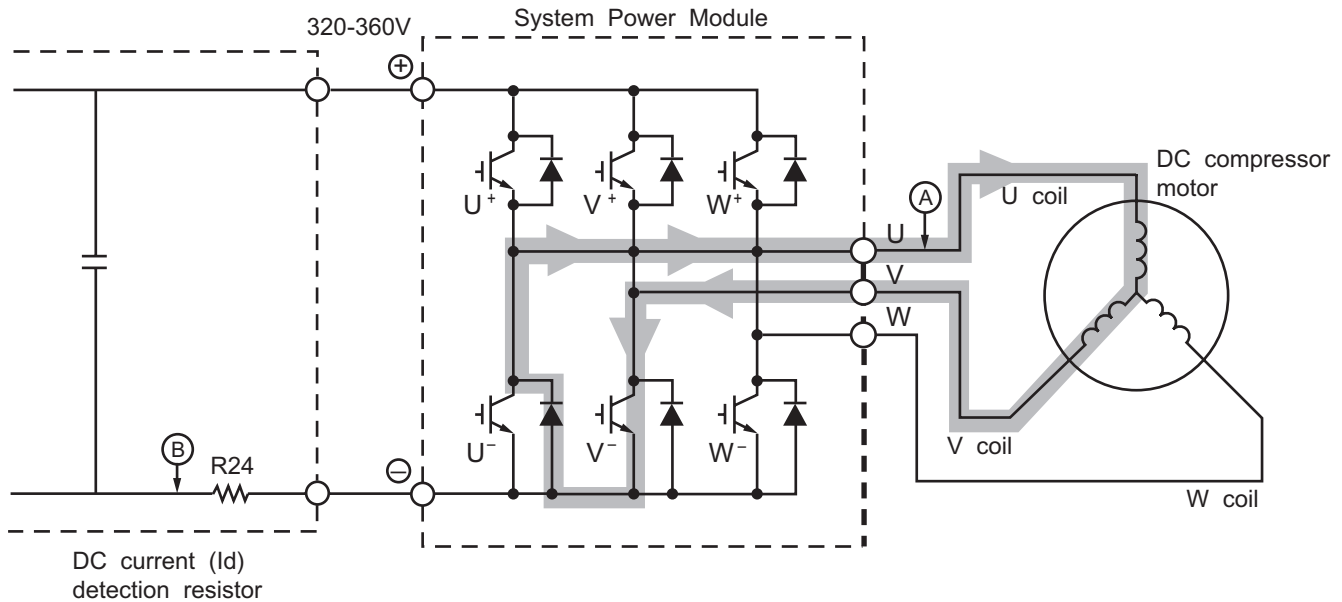

Fig. 3-4 System Power module circuit (U⁺ is OFF, V⁻ is ON)
※ At point F: U^+ is chopped (OFF), V^- is ON (circuit in Fig. 3-4)
- (2) When U^+ transistor is OFF: (by inductance of motor coil) $U \text{ coil} \rightarrow V \text{ coil} \rightarrow V^- \text{ transistor} \rightarrow \text{Return diode} \rightarrow \text{Point ⑥}$ (Fig. 3-4)